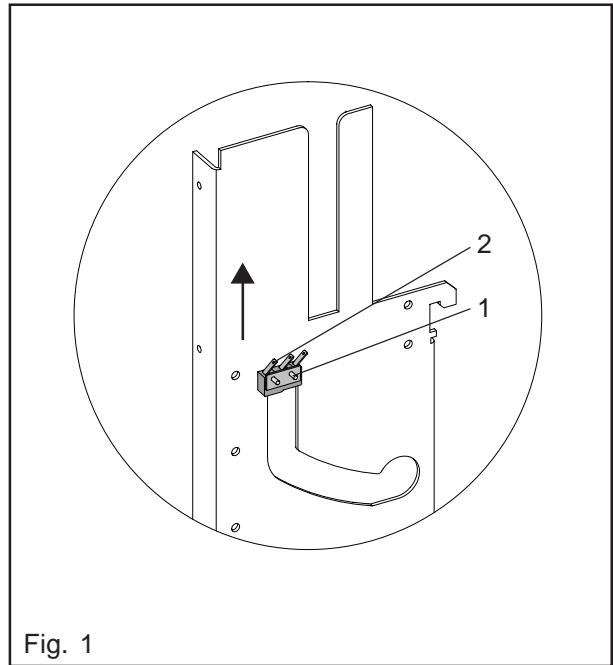

Fig. 1
- Fasten the new microswitch (2) by means of the screws (1), washers, and nuts to the brewer housing. (Fig. 1).
- Unscrew the nut (1). (Fig. 1)